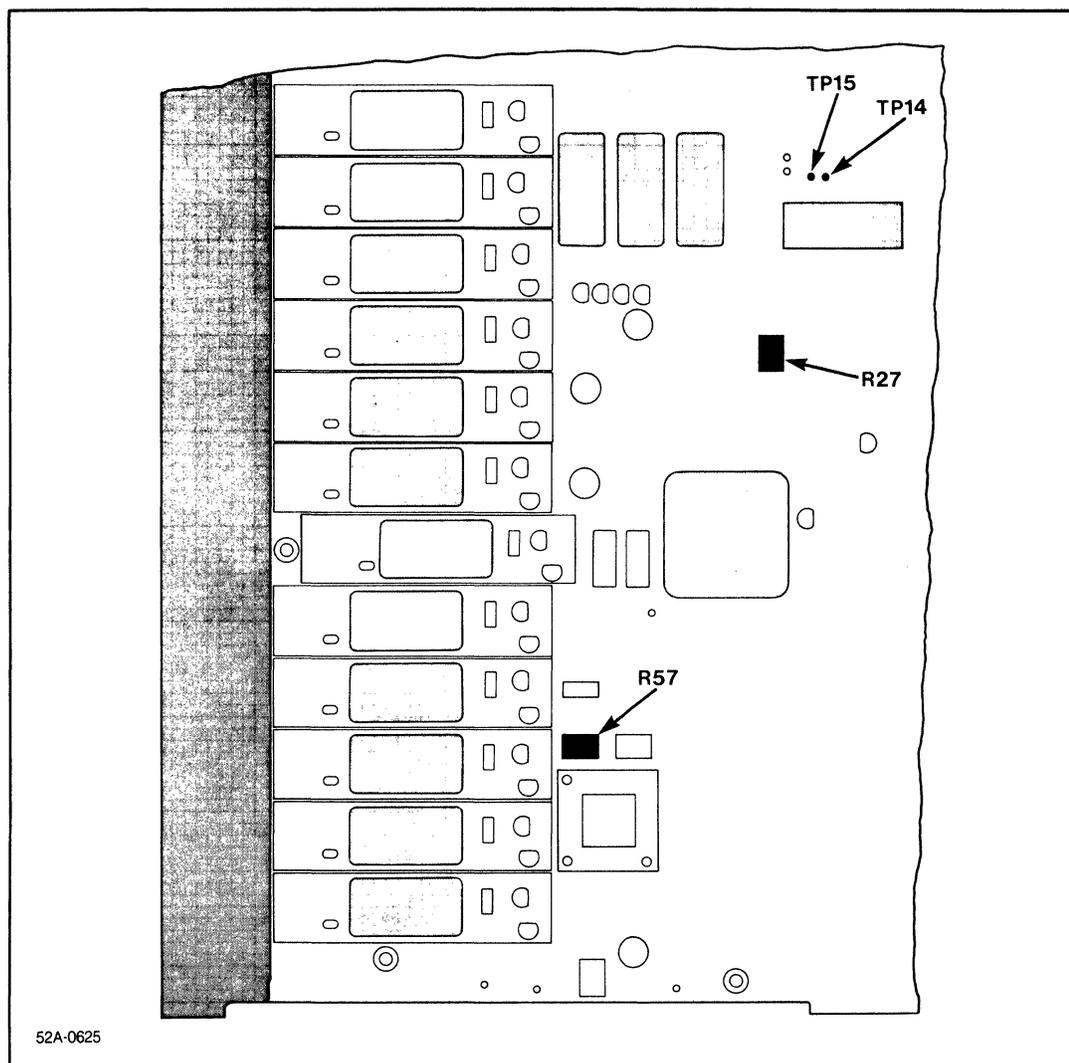

Figure 7-10. Third Offset Adjustment
- 8) Remove the voltmeter leads from the test points and connect them to test points TP14 and TP15. (See figure 7-10.)